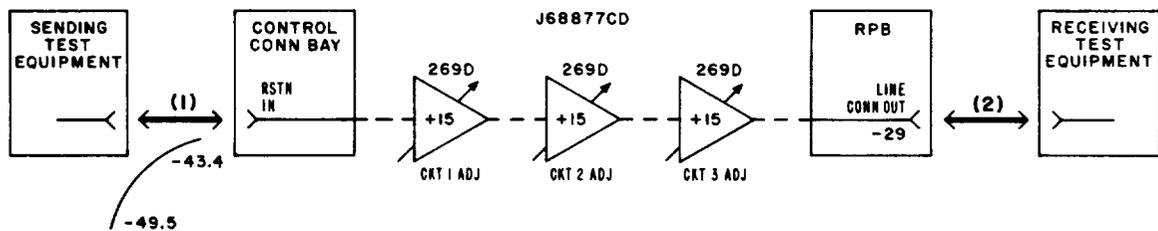

Fig. 4—Restoration Trunk Out of Regular L4 Line
5	Make patches designated (1) and (2) in Fig. 4.
14	Make patches designated (1) and (2) in Fig. 4.